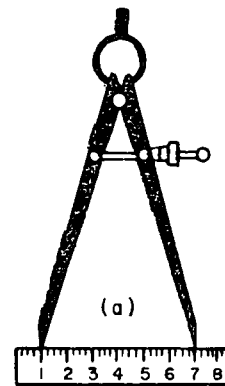

Fig. 4
- a) Open the dividers to the correct measurement (Fig. 4).